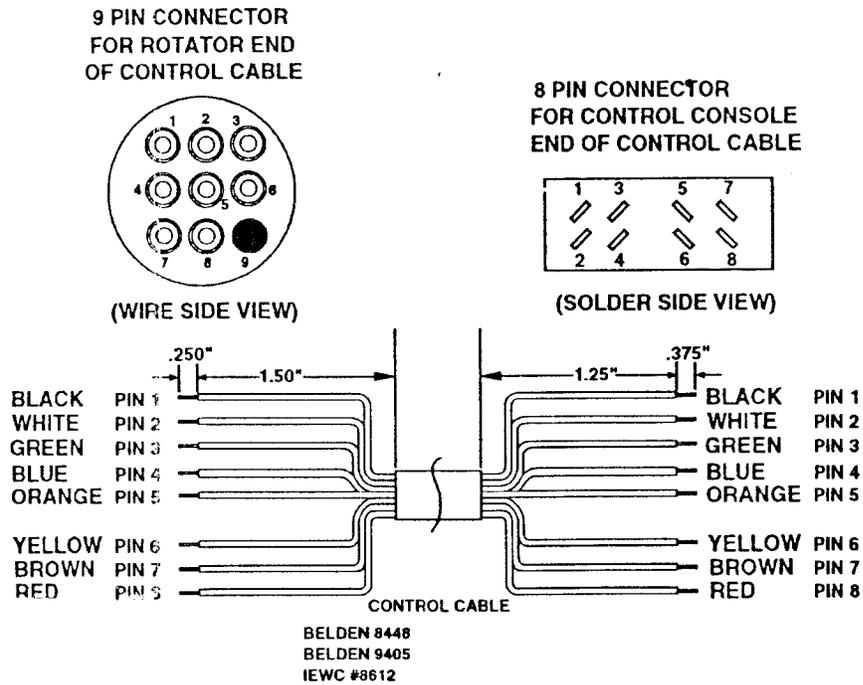

Figure 3 Control Cable Connector Attachment
| Figure 3 Control Cable Connector Attachment ..... | 6  |
3. If this is a new installation, assemble the rotator cable as shown in Figure 3, or purchase a pre-assembled cable.